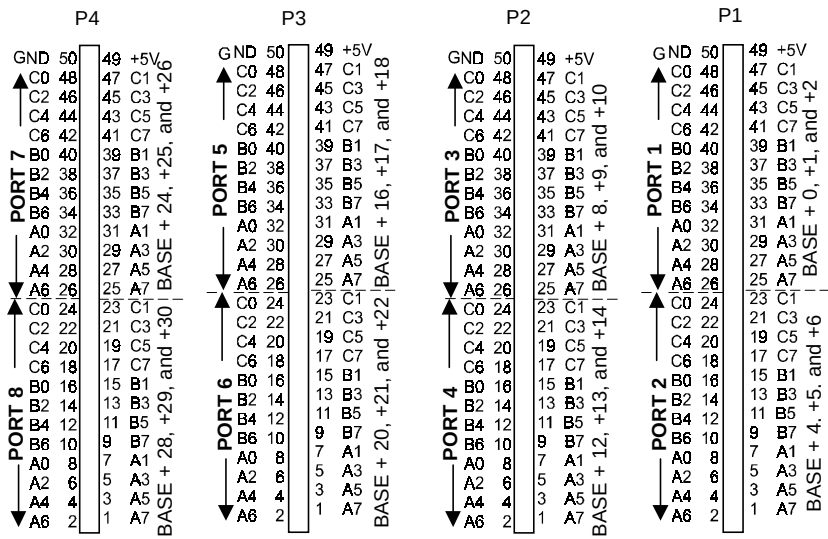

Figure 4-4. CIO-DI192 Connector Pin-outs & Register Assignments
- The CIO-DI192 has four connectors Figure 4-4).